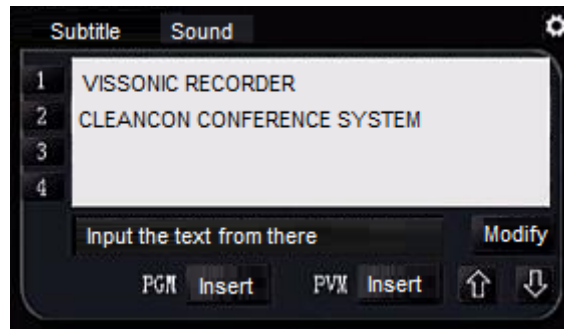

Figure 24 Insert Subtitle
**1)Subtitle-** As shown in Figure 24, in the top right corner of the subtitles settings , we can firstly edit the text and generate subtitle list, and can pre-set the font capitalization, background color, font color, soft subtitles, hard subtitles and so on. In the subtitle list, select the subtitles to be released, click "PVW Insert", you can publish text to the PVW screen for subtitles preview. When there is no problem, click "PGM Insert" to publish to the PGM Live screen. When the subtitle is inserted into the screen, the button will change to "Cancel". Click on the corresponding "PGM Cancel" and "PVW Cancel" to clear the subtitles from the PGM and PVW. Subtitles Only one line can be displayed on the PGM / PVW, and the subtitles will be replaced with the previously released subtitles.